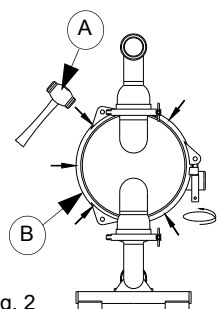

Fig. 2
**NOTE :-** *To achieve a leak free seal around the clamp bands a plastic mallet (A) should be used to gently tap the clamp band into position, in a circular manner. (Ref Fig. 2) The clamp (B) should be tightened simultaneously whilst using the mallet.*